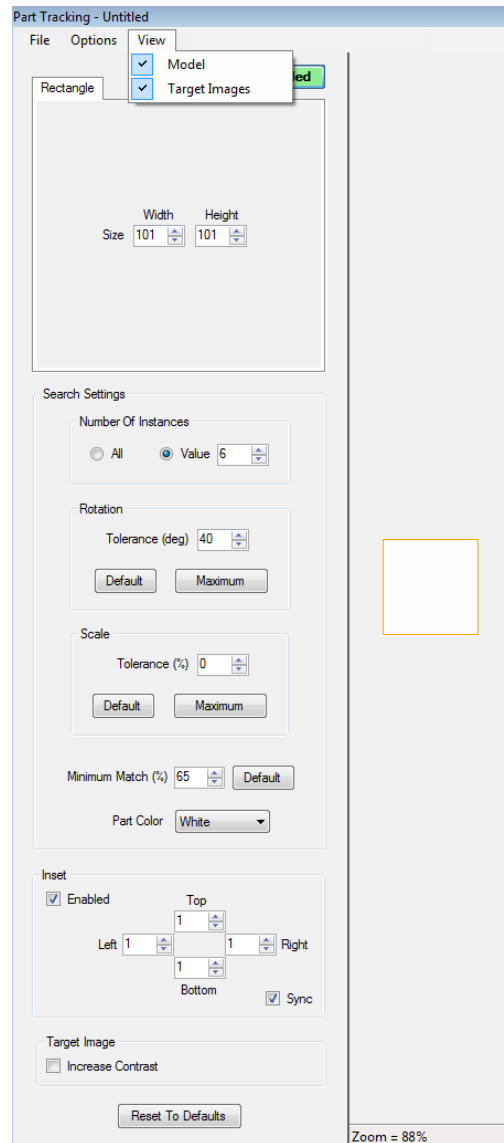

Figure 2.37 Part Tracking control window in Surface Measurement
1. Enable Part Tracking in either the Part Tracking Window (**Figure 2.37**) or Camera Window context menu (**Figure 2.14**).